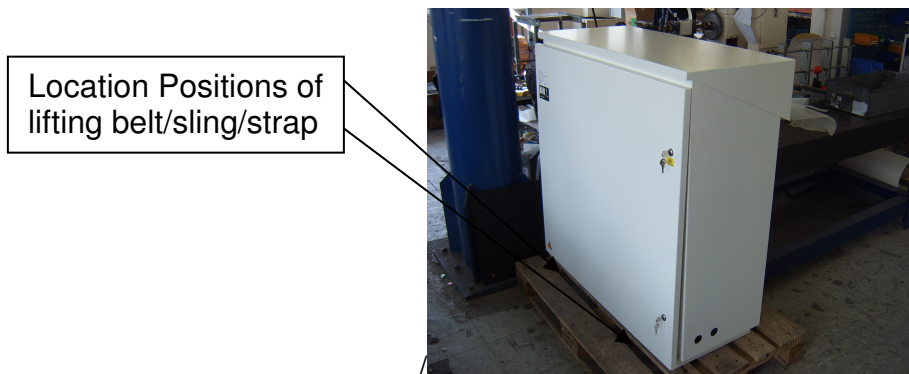

Figure 2 – Correct lifting point where lift belt should be positioned
- (i) Lifting of the unit must be done using lifting slings/belts/straps. Two (2) lifting belts of suitable lifting weight capability (min. 125kg each) and suitable length (min. 3.5m) must be used. Each lifting belt should be positioned at the base of the unit such that each belt is located centrally between the base channels enwrapping the base. (see figure 2)